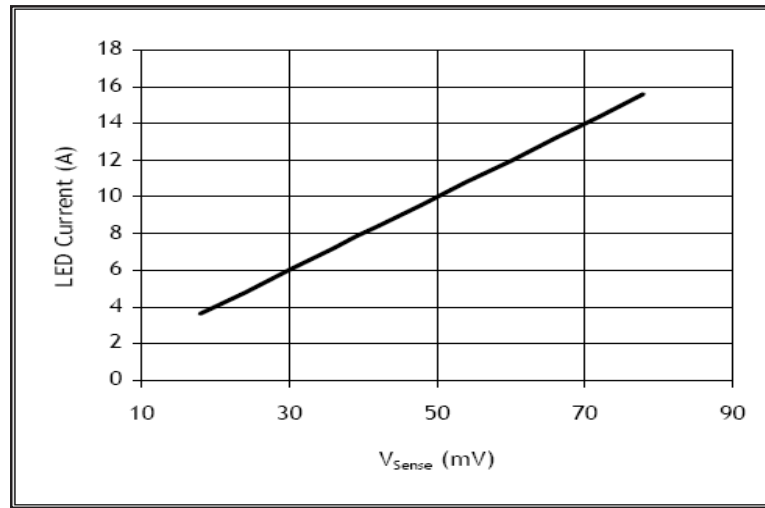

Figure 11: LED Current as a function of V_{sense}
2. To determine the current through the LED, measure the voltage across the sense resistor test studs (see Figure 3). Figure 11 shows the relationship between the sense resistor voltage (V_{sense}) and the LED current, (I_{LED}), which is also calculated using: